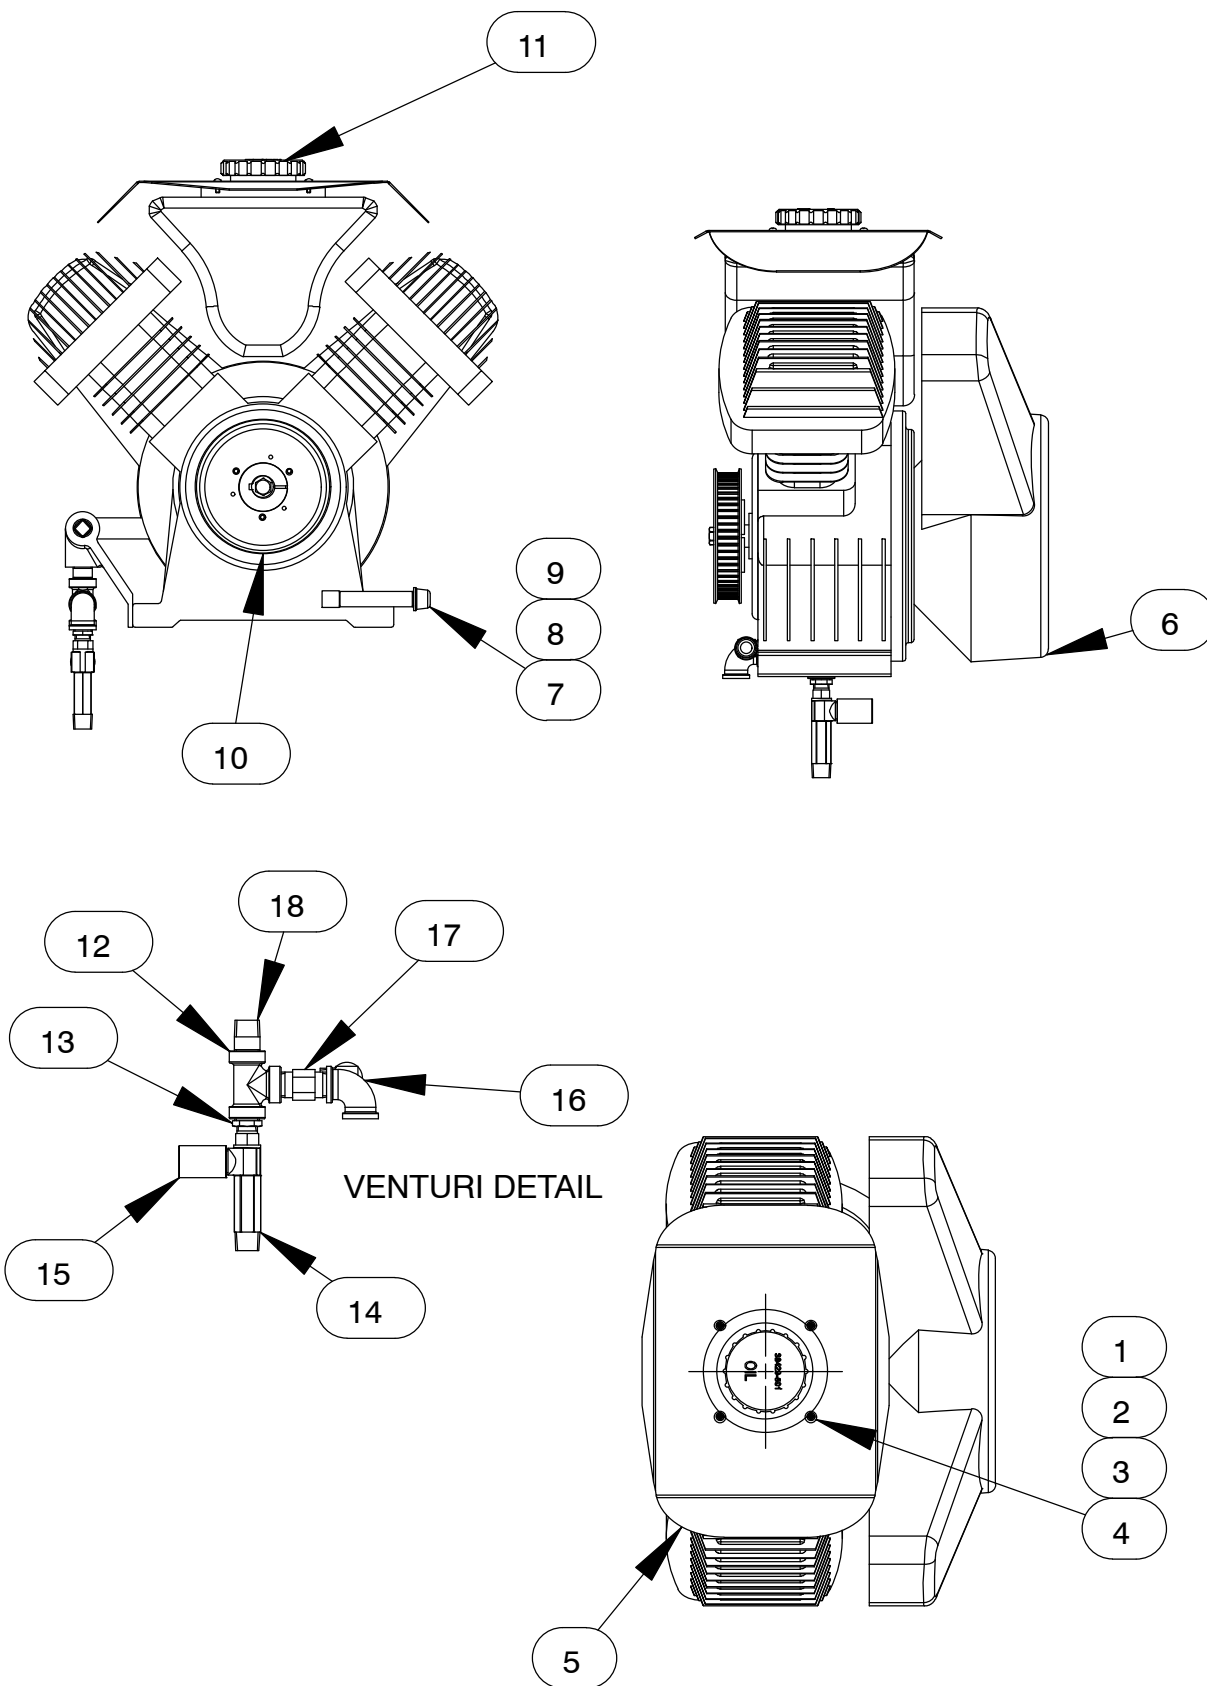

Figure 3. Air Compressor Assembly
Remove the hardware (15 and 16) securing the air compressor assembly to the drive flange (19, Figure 2). Remove the belt (18) from the air compressor pulley (10, Figure 3) and drive sprocket (28).